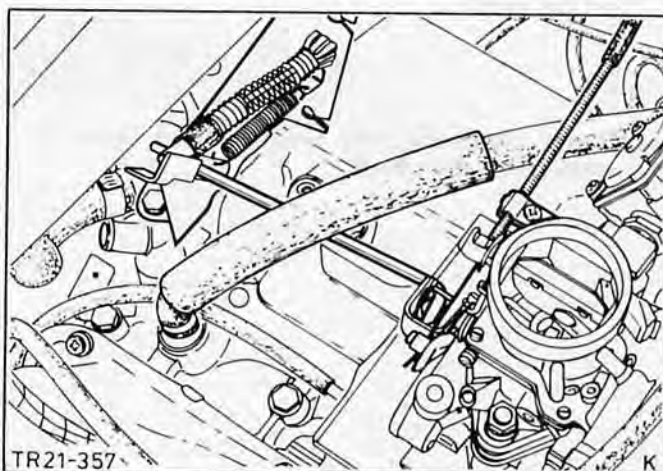

Fig.16. Disconnect throttle linkage.
12. Disconnect throttle linkage at carburettor (clip), Fig.16. Unbolt mounting bracket from inlet manifold (2 bolts) and detach with throttle cable and linkage. Remove choke operating cable.